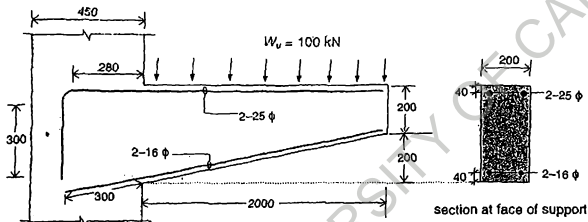

Figure 2
13. Check the Adequacy of the anchorage provided for the longitudinal bars in the cantilever beam shown in Figure. 2 and suggest appropriate modifications, if required. The beam is subjected to a uniformly distributed factored load of 100 kN (total, including self-weight). Assume M 20 concrete and Fe 415 steel, deformed bars.